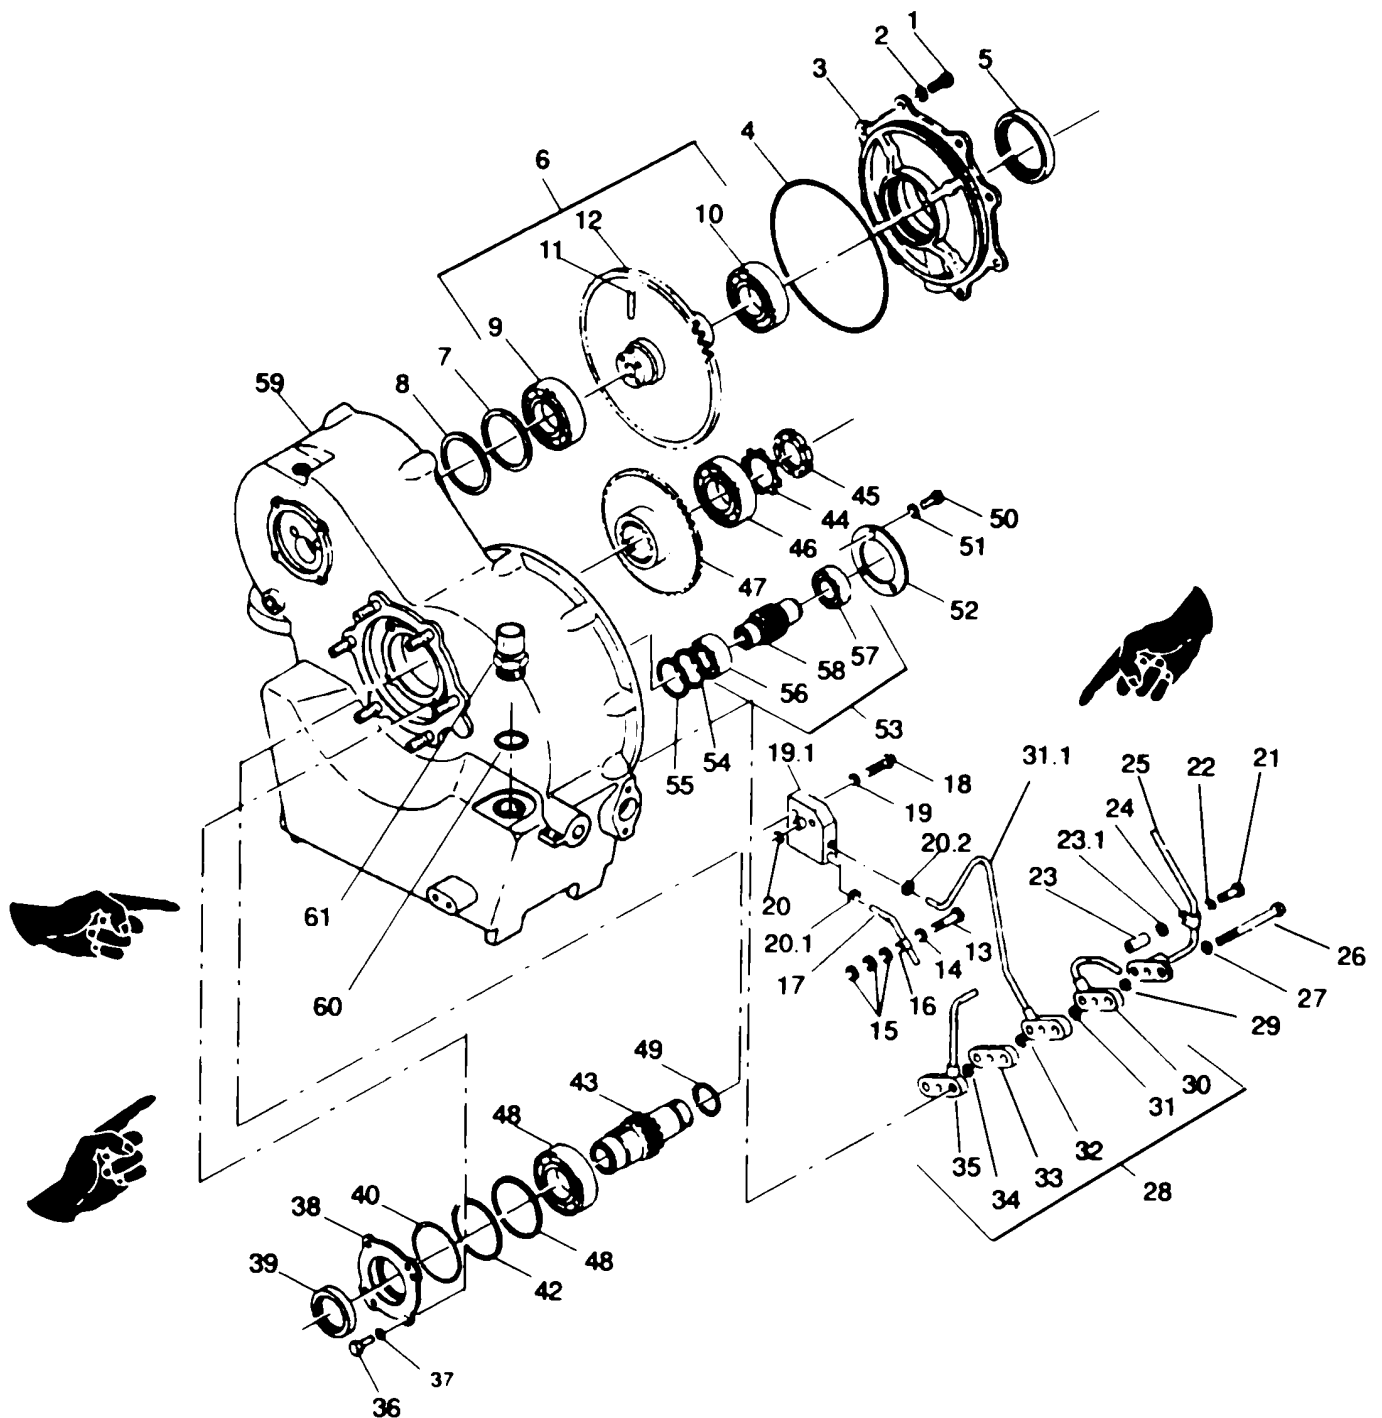

Figure 8-20. Gearbox Disassembly (Sheet 1 of 2)
(4) Remove retaining ring (5), key washer (6), preformed packing (7), oil pressure relief valve (8), and preformed packing (9). Discard packings.
(5) Remove all external oil tubes, plugs, and fittings. Discard preformed packings.
(6) Remove all external safety wire.
(7) Remove bolts (1, Figure 8-20), washers (2), and gently pry off starter mounting cover (3). Discard preformed packing (4) Using arbor press, remove seal (5) from starter mounting cover Discard seal.
(8) Remove starter gear assembly (6), spring washer (7), and bearing shim (8). Discard spring washer.
(13) Remove bolt (13, Figure 8-20), washer (14) and washers (15) securing loop clamp (16) and tube assembly (17) to gearbox housing.
(14) Remove bolts (18) and washers (19) that secure tube fitting (19.1) to gearbox. Remove and discard preformed packing (20, 20.1, 20.2)
(15) Remove bolt (21), washer (22), sleeve spacer (23), and washer (23.1) securing loop clamp (24) and tube assembly (25)
(16) Remove capscrews (26) and washers (27) securing tube assembly stackup (28). The tube assembly stackup consists of tube assembly (25), preformed packing (29), tube assembly (30), preformed packing (31), tube assembly (31.1), preformed packing (32), plate spacer (33), preformed packing (34), and tube assembly (35). Remove and discard all preformed packings
(17) Remove bolts (36) and washers (37).
(18) Insert bolts (36) in jackscrew holes in seal retainer (38). Turn jackscrews to remove seal retainer.
(19) Using arbor press, remove seal (39). Remove preformed packing (40), shim (41), and spring washer (42). Discard packing and seal.